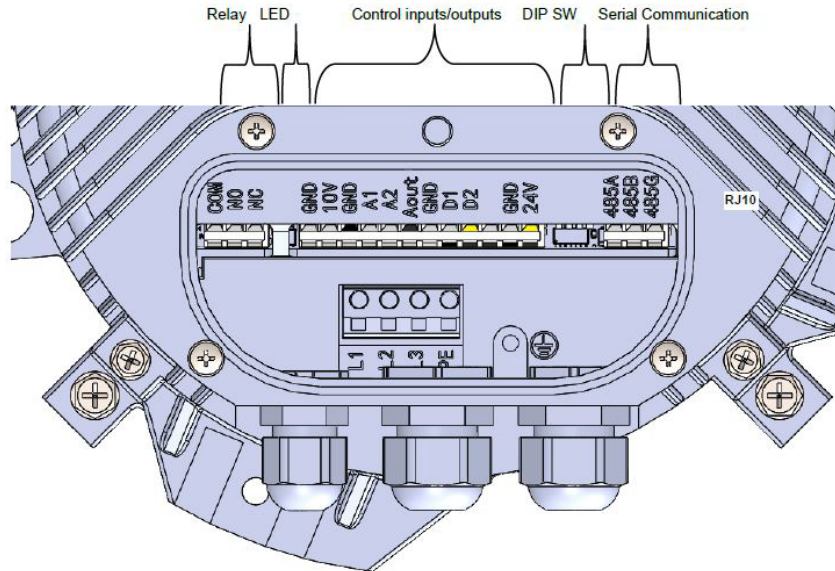

Figure 33. Terminal Strip Layout
12. Wire the terminal blocks shown in **Figure 33**, following the wire labels created in **Step 4**. Refer to **Table 6** for more information on connection designations. After terminating the wire, pull-test the wire to ensure proper installation.